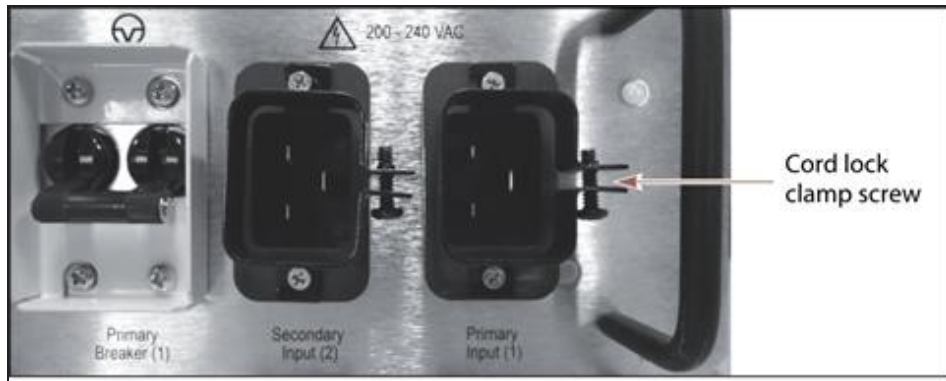

Figure 288 Install the cord locks on the power cords.
7. Place a cord lock over the connector on the end of the power cord that connects to the library. Orient the cord lock as shown in Figure 288.